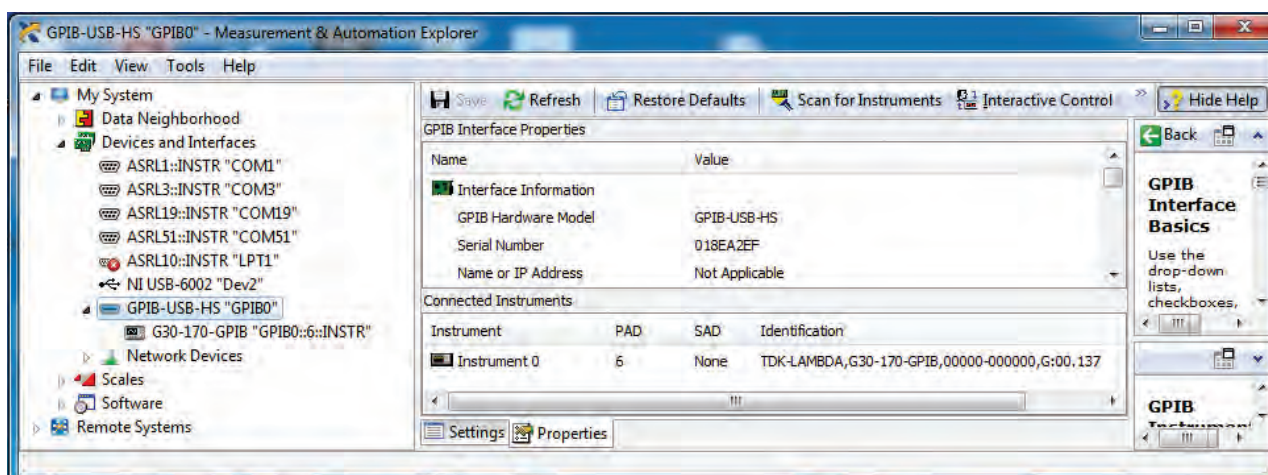

Figure 7–4: Scan for Instruments
4. On the side tree, select **GENESYS™** instrument (i.e., G30-170-GPIB) and review the device settings. Refer to Figure 7–5.